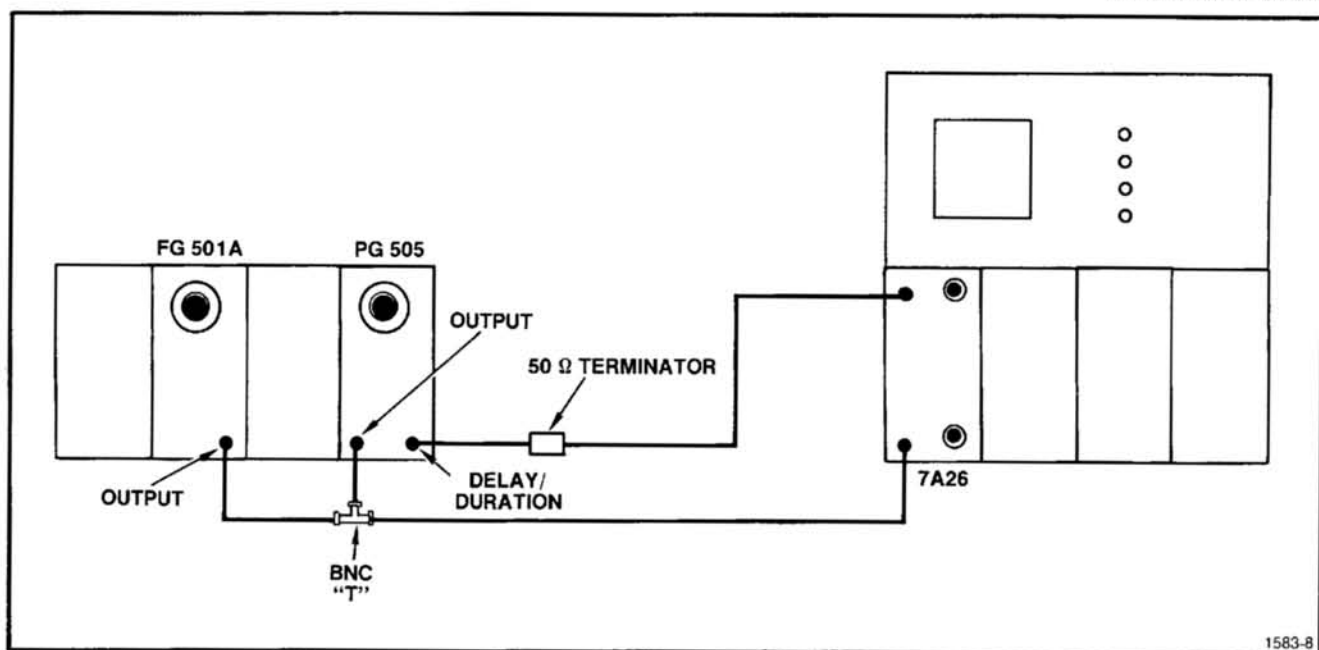

Fig. 4-3. Output Delay Range Check.
- b. Connect the equipment as shown in Fig. 4-3.